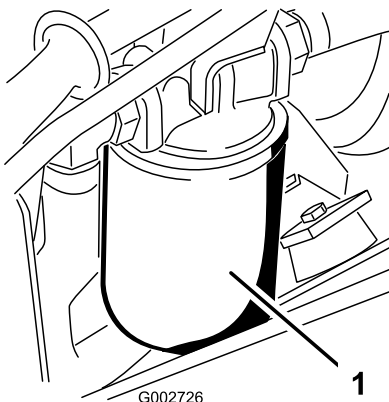

Figure 41
3. Place a drain pan under the hydraulic filter, which is located on the left side of the machine (Figure 41).